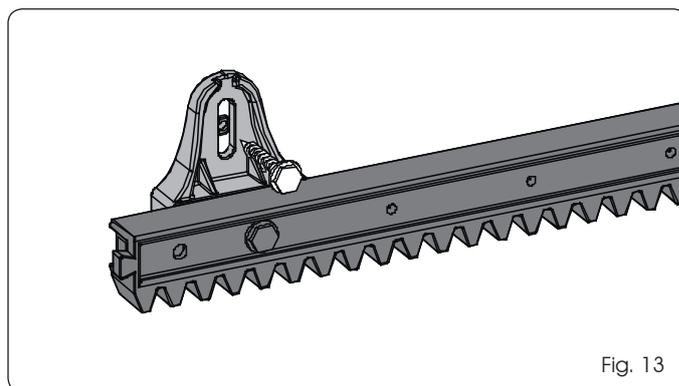

Fig. 13
5.4.3 CREMAGLIERA IN NYLON AD AVVITARE (Fig. 13)